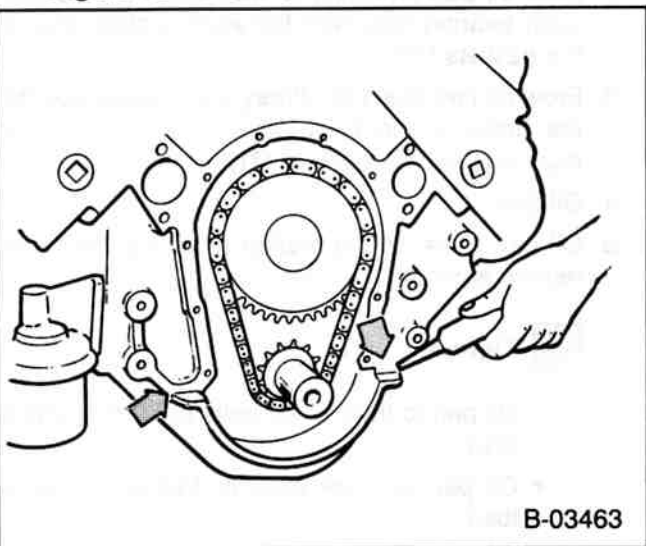

Figure 16—Applying Sealer
- Apply a 3 mm (1/8-inch) bead of RTV sealant (GM part number 1052366 or equivalent) to the front oil pan to block joint (figure 16).